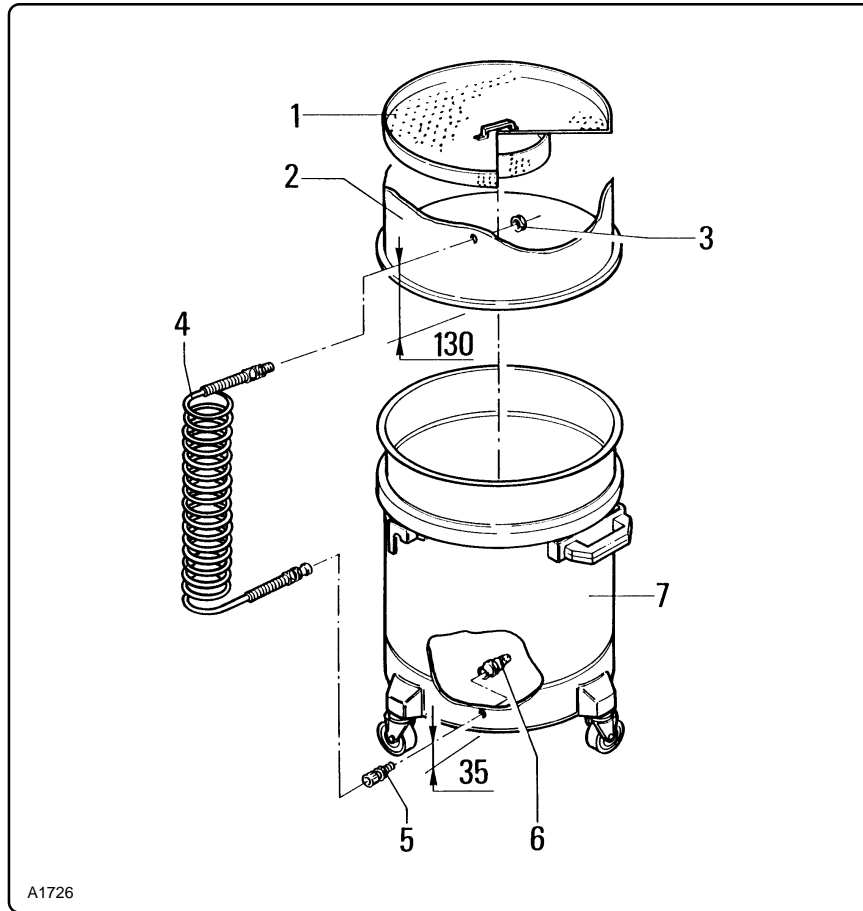

Fig. 6.10.3
6.10.3- Griglia e depressore (fig. 6.10.3)
6.10.3- Plate and suction pipe (fig. 6.10.3)